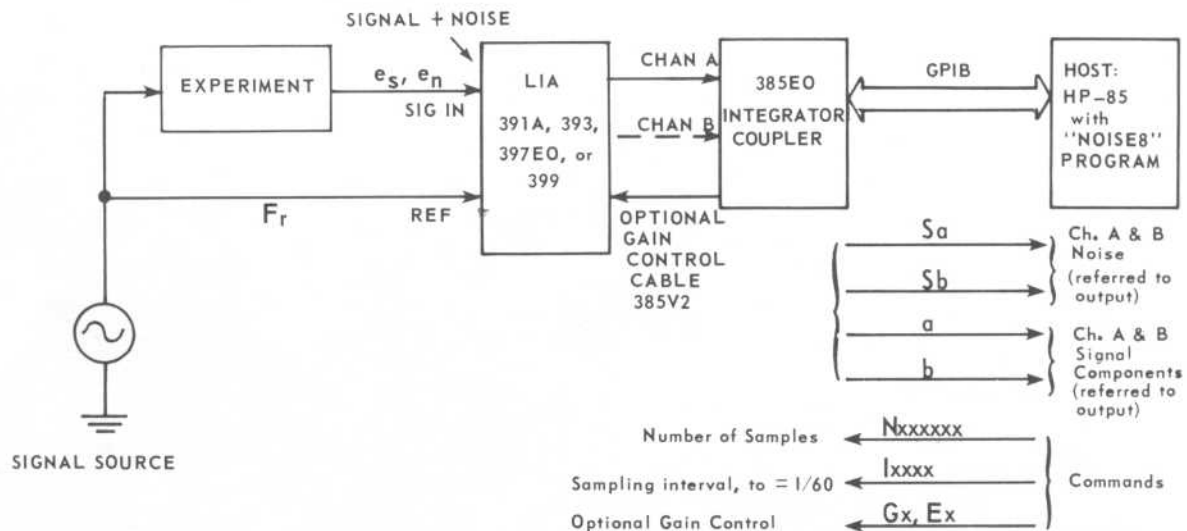

Figure 1 TYPICAL NOISE MEASUREMENT SETUP
- Gain control commands Ex, Gx are for Model 399 or 397EO Lock-In Amplifiers only. Omit cable 385V2 (Figure 1) if you do not change lock-in gain with the host computer.